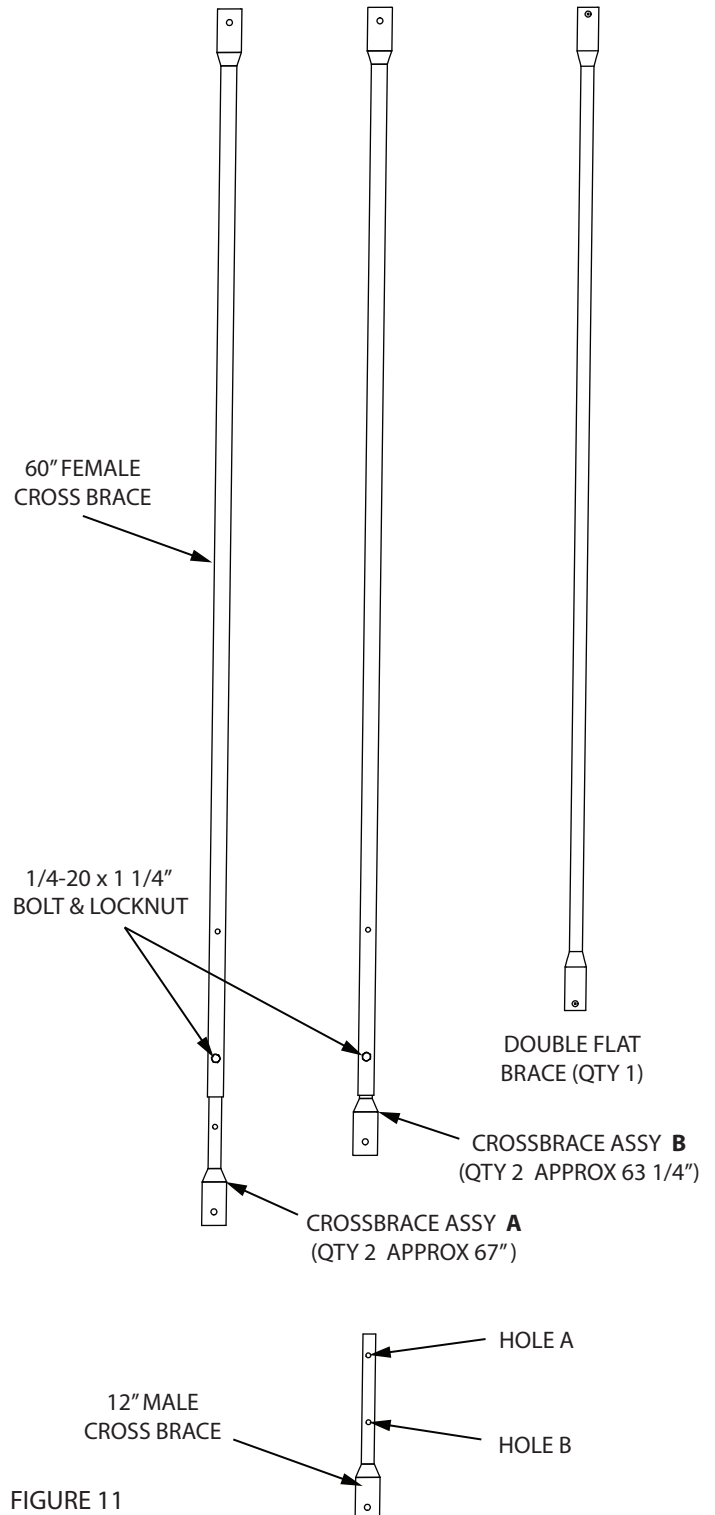

FIGURE 11
a. Locate the (4) 12" male cross braces (TP149) and the (4) 60" female cross braces (TP131). Insert the male cross braces into the female cross braces.
b. Assemble two cross braces in the hole location listed for Pole length **A** and two cross braces in the hole location listed for pole length **B**. Secure with (4) provided 1/4-20 x 1-1/4" bolts and locknuts. **SEE FIGURE 11**